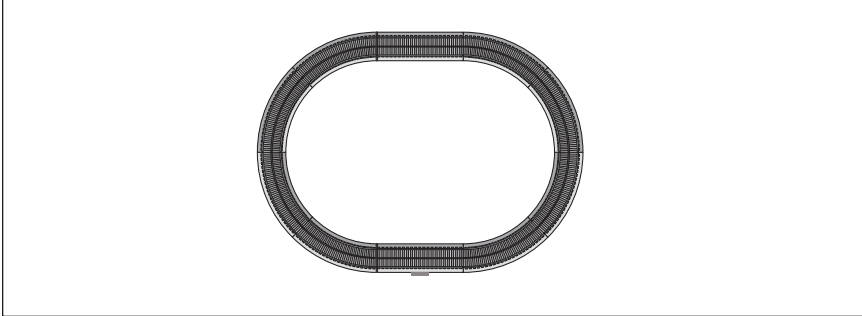

Figure 1. Track layout
**Y**our set comes with eight curved sections, one 10" straight section, and one wall-pack terminal section of track. Figure 1 shows the oval layout that you can build with these track sections. You may choose to add more FasTrack track sections to create an endless number of exciting track arrangements for more fun, action, and variety.